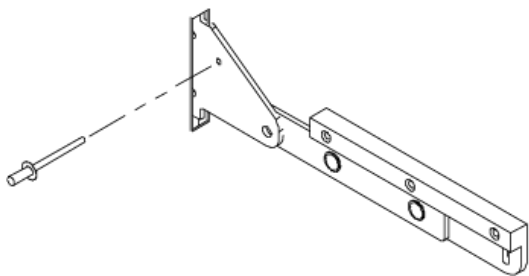

Figure 26: Use Rivet, Screw, or Nail to Hold Hinge Open
2. Open the oven door to its full open position and insert rivets, screws, or nails (Figure 26) to hold the hinges in the open position.